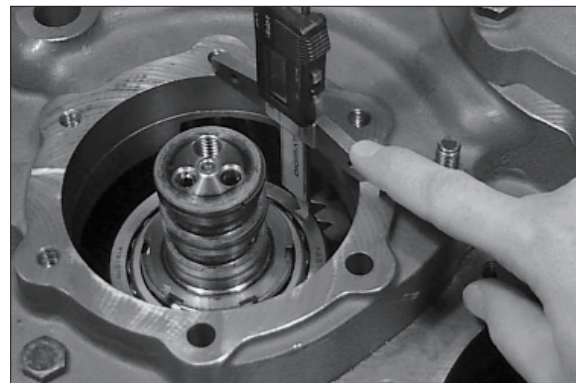

Figure 267
**Adjust the bearing preload of clutch KV/K1 = 0.0~0.05 mm (figure 267~270)**